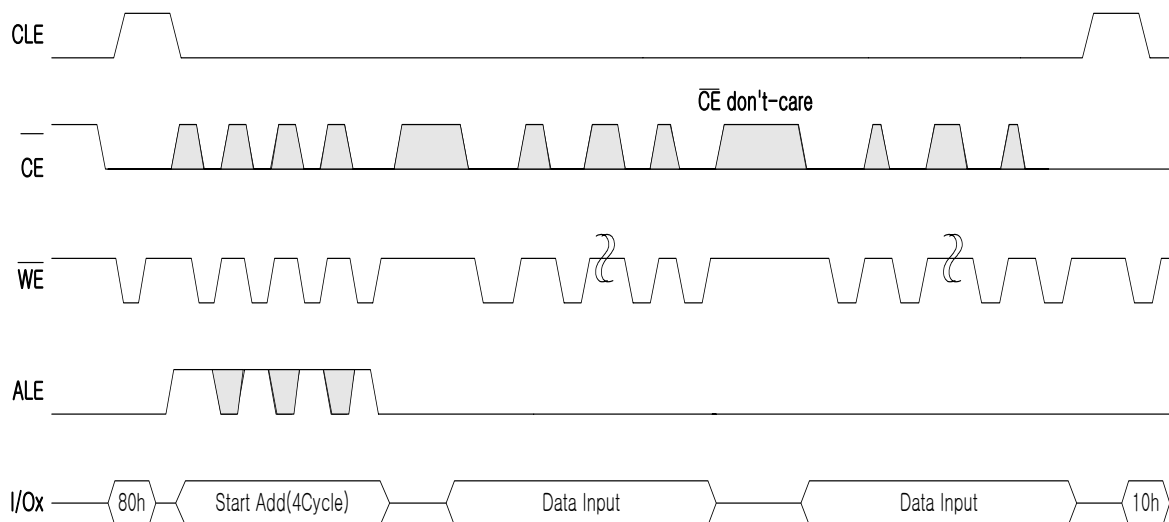

Figure 32. Program Operation with $\overline{CE}$ don't-care.
Note: (1). The time to Ready depends on the value of the pull-up resistor tied to the Ready/Busy pin. See Figures 32, 33 and 34.
Figures 32, 33 and 34 show the electrical characteristics for the Ready/Busy signal. The value required for the resistor R_p can be calculated using the following equation: